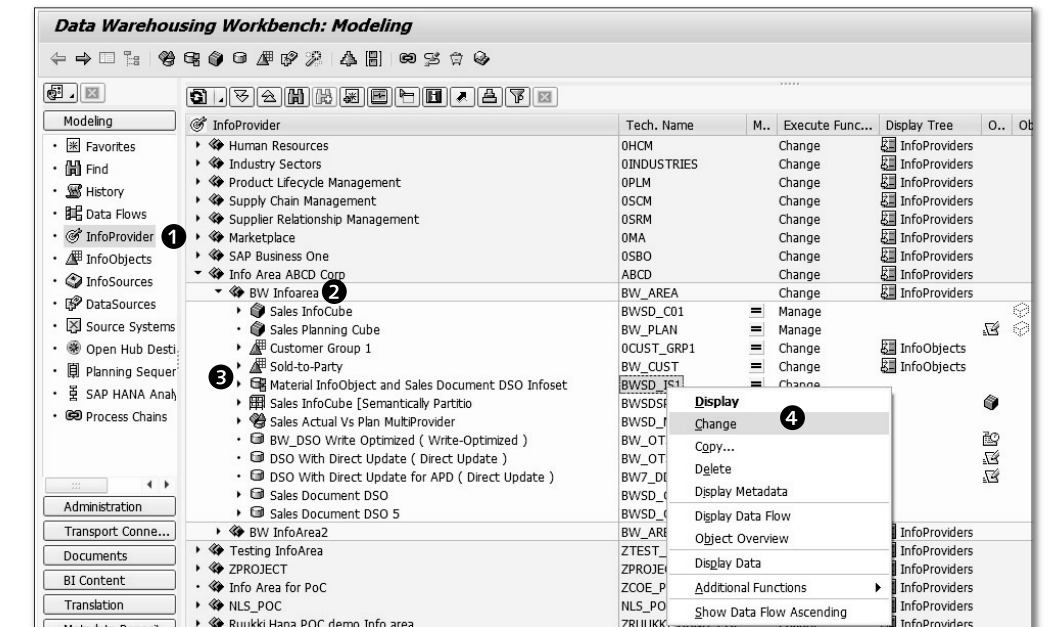

Figure 6.31 Editing the InfoSet
There are a few settings available for creating and editing an InfoSet. These settings are typical for the InfoSet only, so they are explained in detail in this section. Start the InfoSet definition in change mode. In the **DATABASE WAREHOUSING WORKBENCH** screen (Transaction RSA1), under **MODELING** in the navigation section, select **INFOPROVIDER**, as shown in ❶ of Figure 6.31. Select **BW INFOAREA BW AREA** ❷. Using the context menu of InfoSet **BWSD_IS1** ❸, select the **CHANGE** option ❹. The **CHANGE INFOSET** screen appears (Figure 6.32).